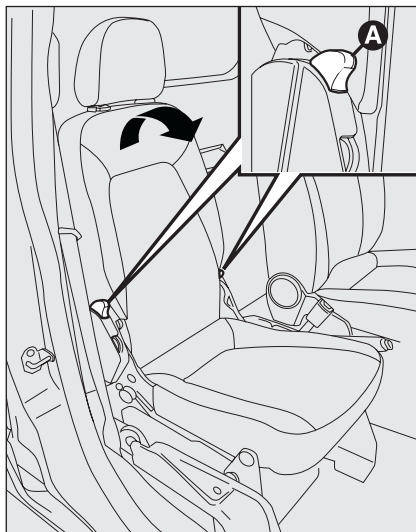

fig. 22
- ☐ pull the two levers **A-fig. 22** on the sides of the seat and tip it forward following the indications of the arrow;